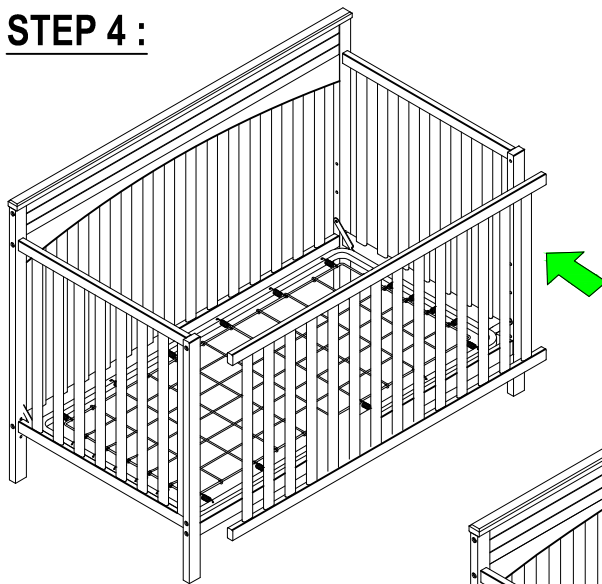

FIG.1 :
Assembly the upper rail of Footboard frame (6) to the Footboard Post (L&R) (4) by Allen bolt (A), Spring washer (C) and Barrel Nut (B) as shown in FIG.1. Tighten all bolts by Allen Key (D).